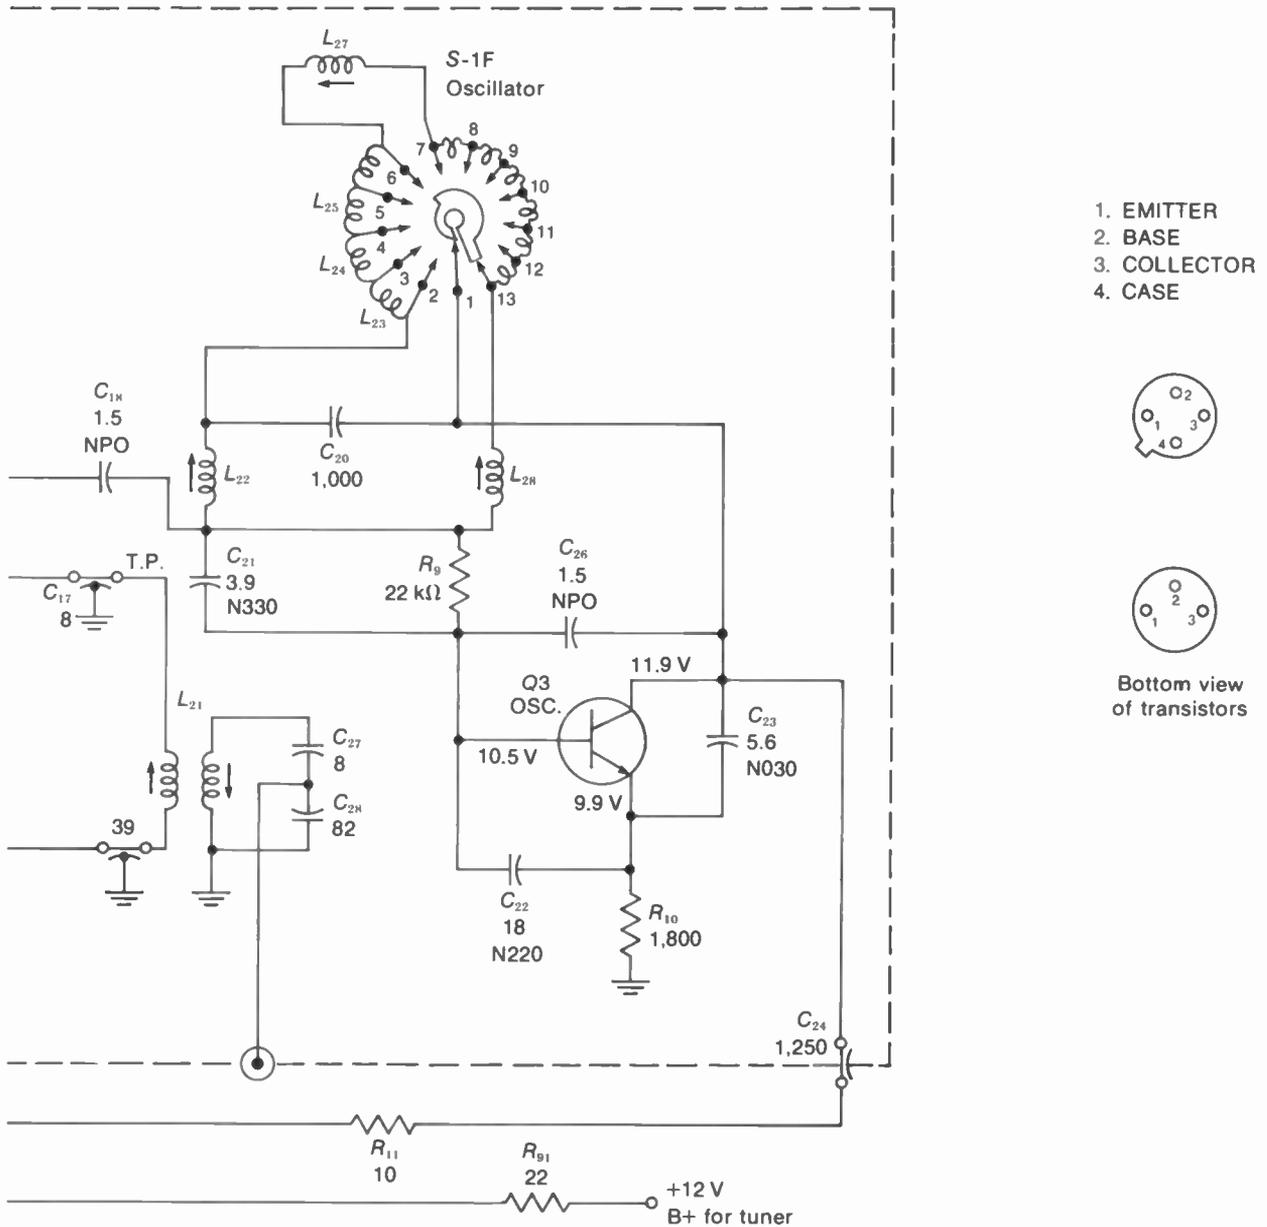

FIGURE 24-23 TRANSISTORIZED CIRCUITS FOR VHF TUNER. R IN OHMS AND C IN PICO FARADS. (RCA KRK 157A)
The complete schematic of a VHF tuner is shown in Fig. 24-23. Q1 is the rf amplifier stage, Q2 the mixer, and Q3 the local oscillator. Rotary wafer switches are used for the station selector.
**How the switches select the channel.** The five wafer switches from right to left in Fig. 24-23 have the following functions: